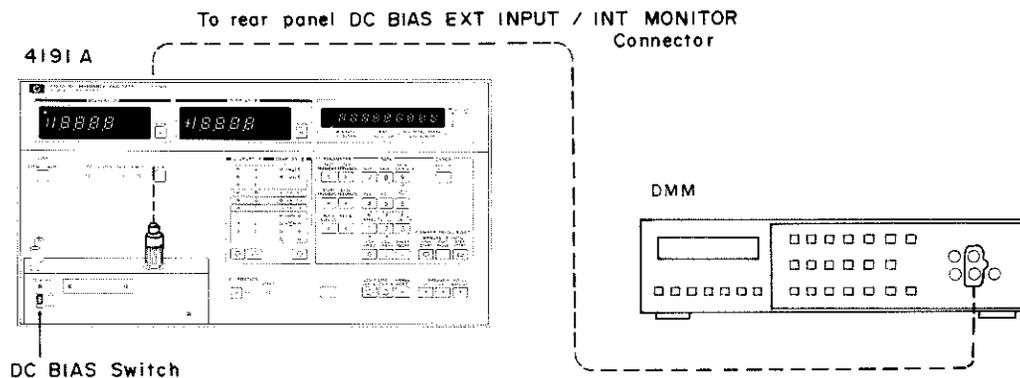

Figure 4-5. Internal Bias Voltage Accuracy Test Setup.
1. Connect the BNC to dual banana plug cable to the DC BIAS EXT INPUT/INT MONITOR connector on the 4191A rear panel and to DMM input. See Figure 4-5.